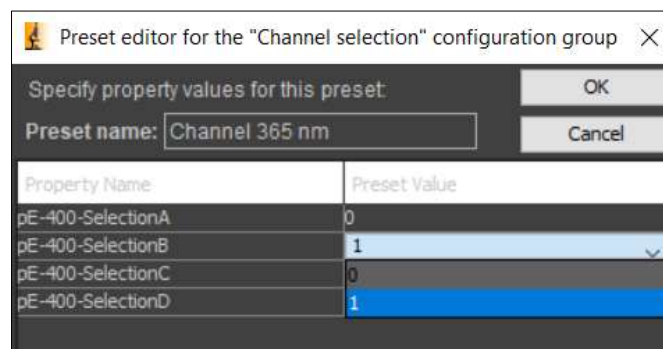

Figure 14: Creating presets with each channel selected per preset
3. The 'Preset editor' opens automatically (Figure 14). This is where presets are created for the properties now selected.